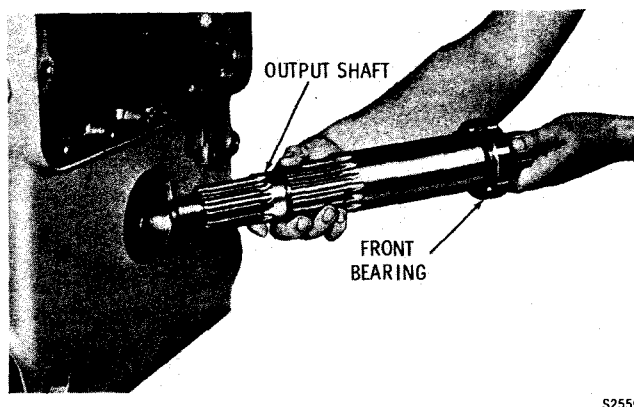

Fig. 5-63. Removing output shaft (-1 models with one-piece output shaft)
(4) Remove the output shaft and front bearing as an assembly (fig. 5-63). Remove the front bearing from the output shaft.